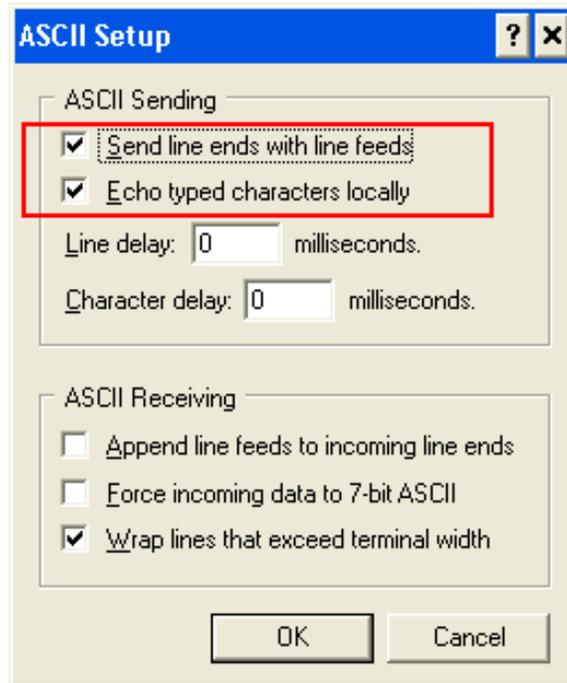

Figure 6: ASCII Character Settings
6. Click the **ASCII Setup** button. Select the check box labeled '**Send line ends with line feeds**' and '**Echo typed characters locally**' (Figure 6).